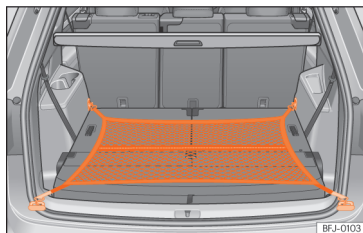

Fig. 205 In the boot: net bag hooked up at floor level.
- Secure the net hooks to the fastening rings »»» Fig. 205 , »»» ⚠. The bag zip should be facing upwards.